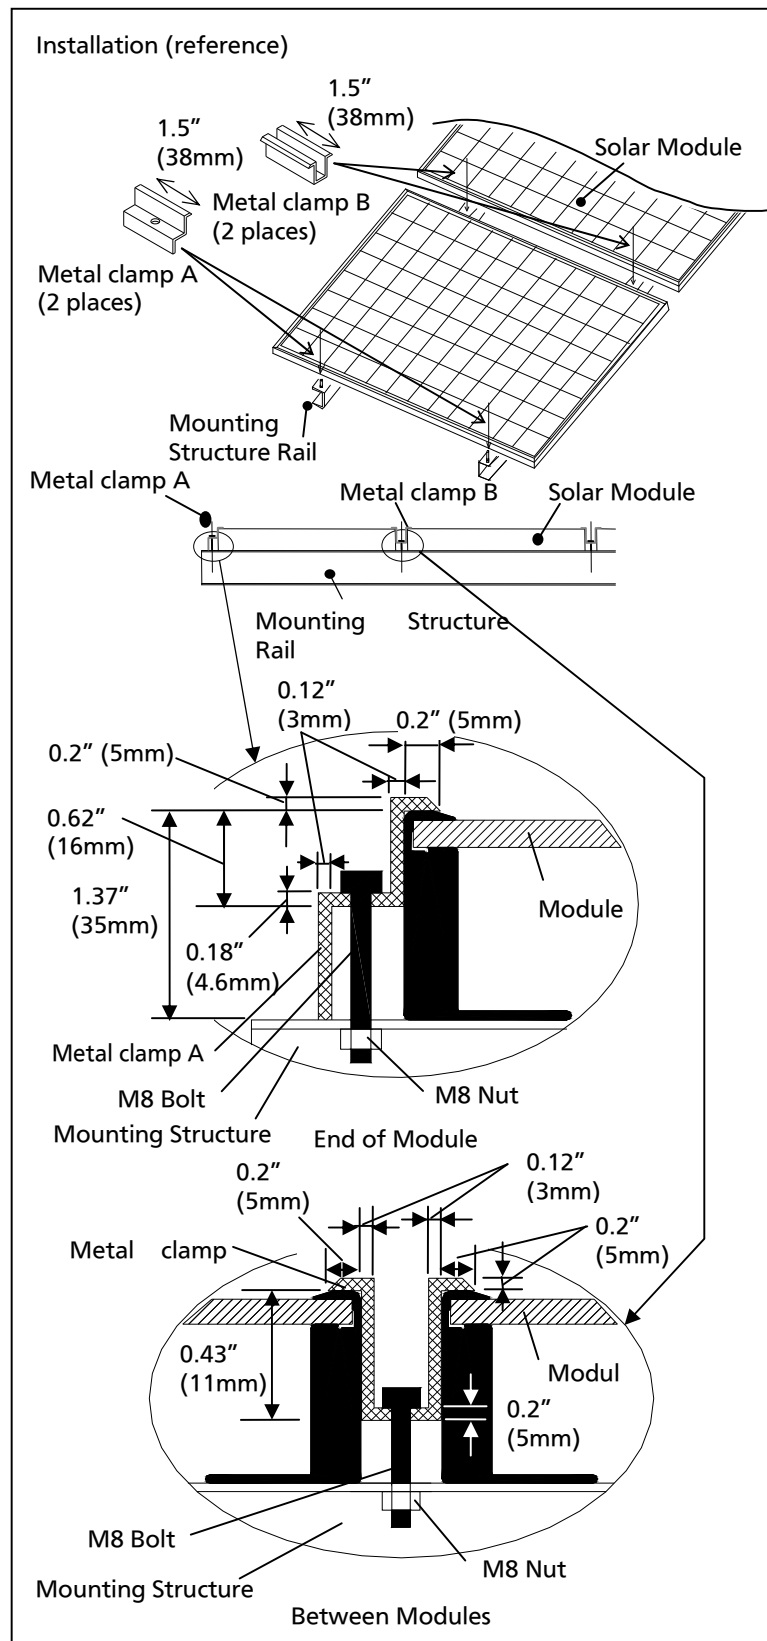

Figure 1. Installation
- Panasonic recommends the installation method and mounting profile shown in Figure 1
- The module was tested using Unirac clamps with the specifications see figure 1 and below;